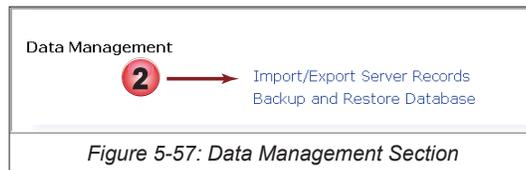

Figure 5-57: Data Management Section
2. In the Data Management section, click the link **Import/Export Server Records**, Figure 5-57.